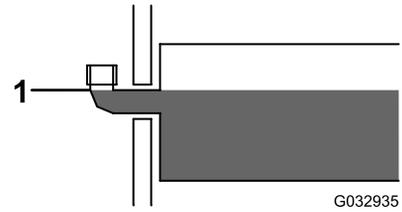

Figure 33
3. Remove the fill cap from the hydraulic reservoir (Figure 33).
4. Slowly fill the reservoir with BOSS high-performance hydraulic fluid to the bottom of the fill elbow (Figure 33).